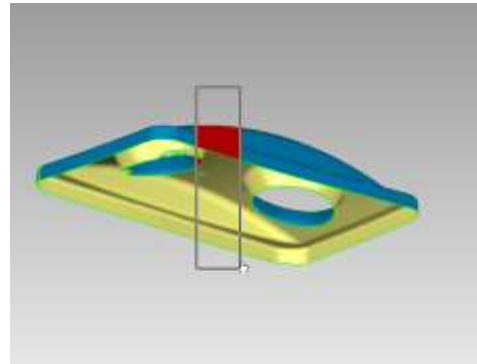

Figure 8 – Select Backfaces Mode: OFF
15. Make the selection again as shown in **Figure 8**.